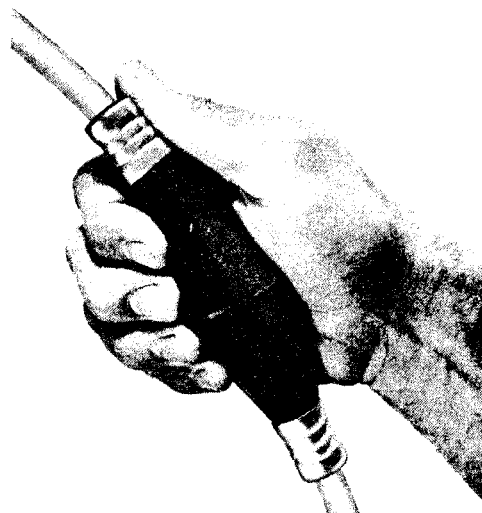

Figure 27. Priming Fuel System
7. Prime carburetors and fuel system by squeezing primer bulb on fuel line. (Figure 27) When fully primed, bulb will feel firm.
5. Prime fuel system by squeezing primer bulb on fuel line. (Figure 27) When fully primed, bulb will feel firm.
2. Prime fuel system by squeezing primer bulb on fuel line. (Figure 27) When fully primed, bulb will feel firm.